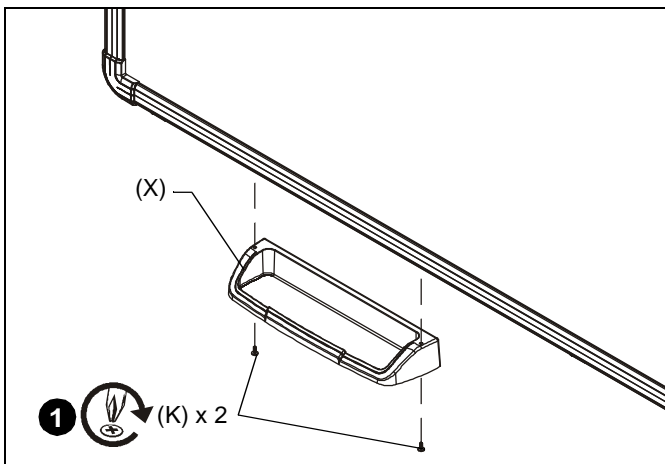

Figure 17
1. Attach marker tray (X) at any point along bottom of screen frame using two #8 x 1/2" self-drilling screws (K). (See Figure 17)